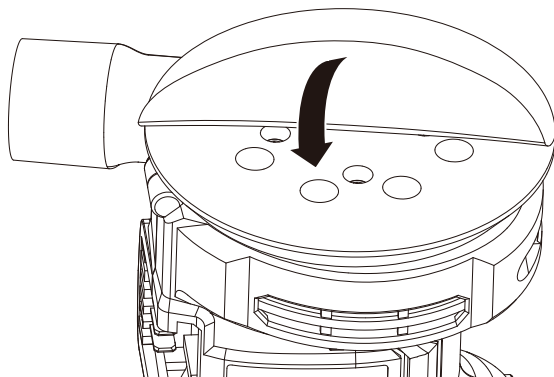

Figure 1
1. FITTING THE SANDING DISC (SEE FIG. 1)